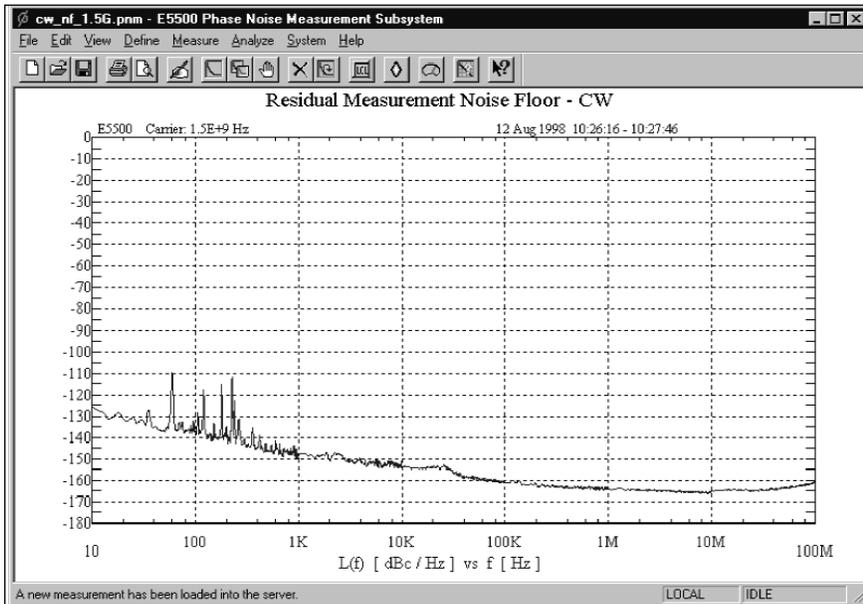

Figure 2-8. CW residual noise floor using an Agilent 83732B as the stimulus source
9. Interpret the results. A typical residual noise floor measurement when using the microwave phase detector is shown in Figure 2-8. The noise level close to carrier is influenced by the AM noise characteristics of the stimulus source (in this case, the Agilent 83732B). The rise in the noise level far from carrier (>40 MHz offset) is due to the delay difference in the signal paths. Since this configuration is intended for pulsed carrier measurements, where data is valid only to a PRF/2 offset frequency, this delay difference is acceptable.